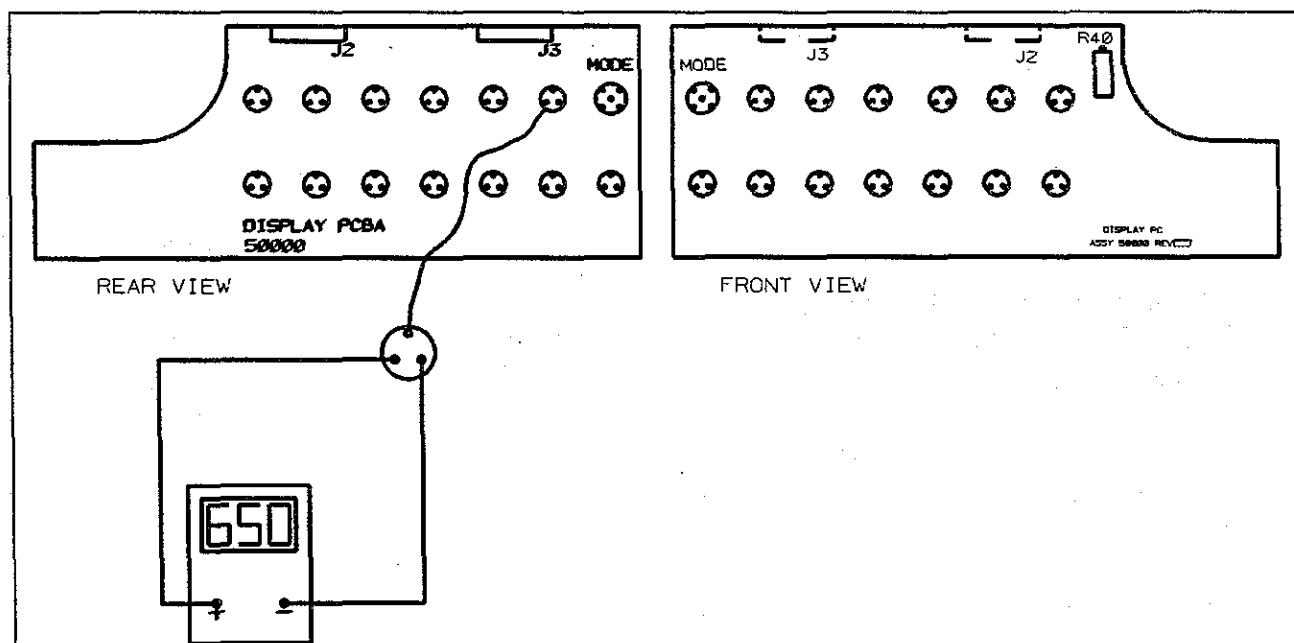

Fig. 25.0
25.4 Connect Ohmmeter at locations on Display PC Board as shown in Fig. 25.0. Reading must be 650 OHMS.